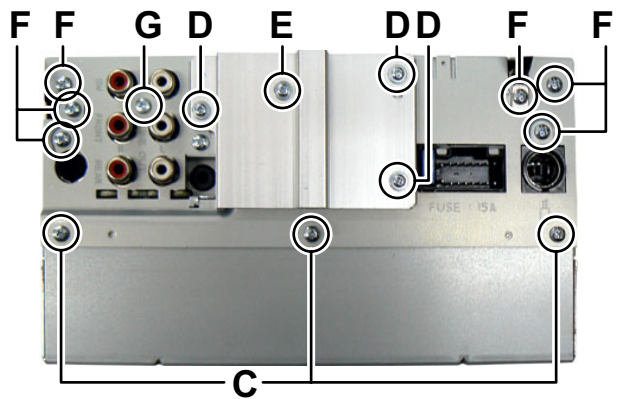

Fig.3
- (2) Remove the three screws **C** attaching the Bottom chassis. (See Fig.3)
- (3) Remove the three screws **D** and one screw **E** attaching the Heat sink. (See Fig.3)
- (4) Remove the six screws **F** and one screw **G** attaching the Rear bracket. (See Fig.3)